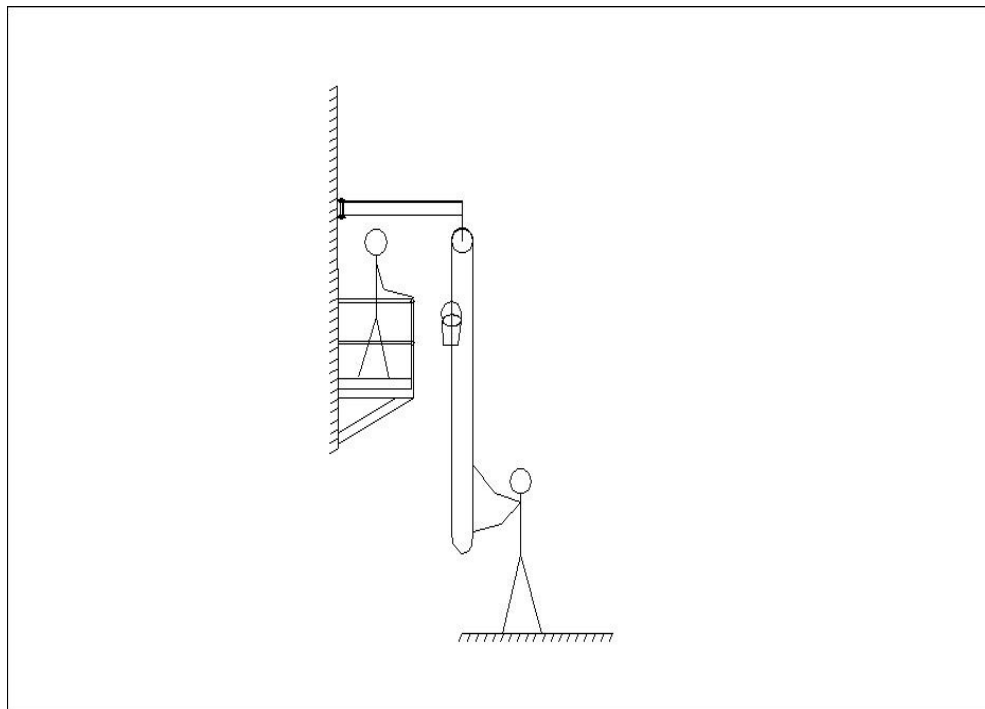
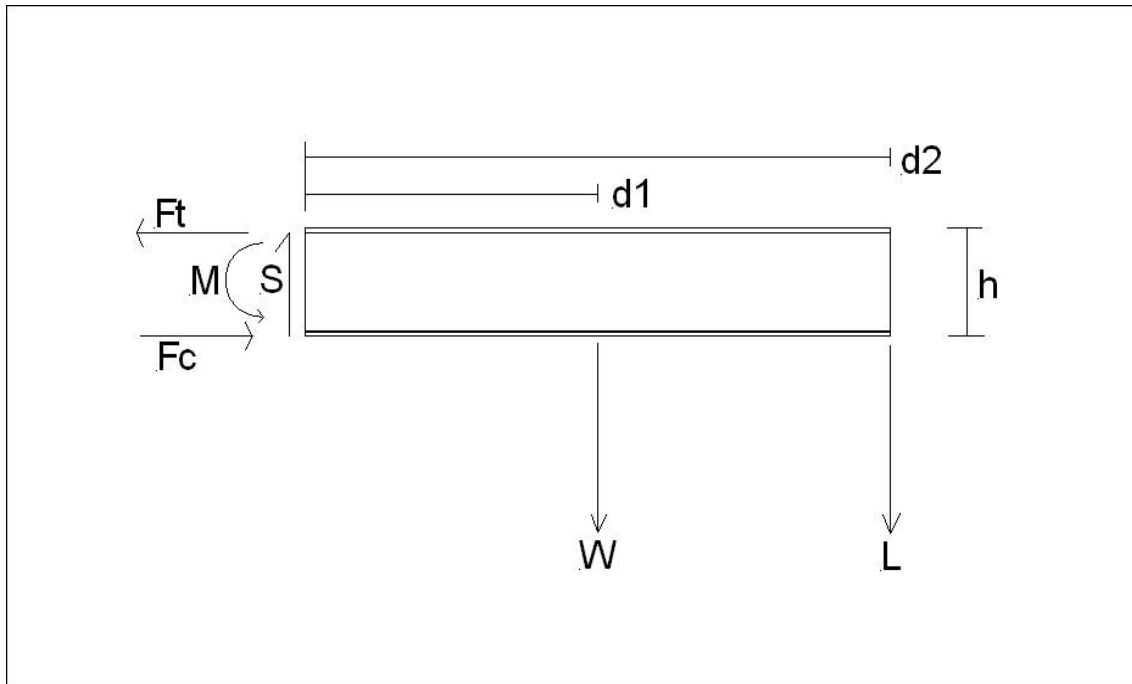

Figure 1. A simple davit being used by a worker to raise a bucket of equipment.
Figure 1a A free body diagram of figure 1.
Figure 1 illustrates a simple davit being used by a stack tester. The davit is an I-beam that has been pinned to a support on the stack wall; pinning in this manner is a common method of reducing lateral loads and wind loads. At the other end of the davit there is a pulley with a continuous piece of rope which supports a bucket of stack testing equipment being hoisted to the platform by a worker on the ground. Figure 1a is a free body diagram of the same davit with some of the important dimensions and forces labeled.  $W_B$  is the weight of the beam and it acts at a distance  $d_1$  from the restrained end of the beam.  $L$  is the load and it equals the sum of the weight of the pulley,  $W_P$ ; the weight of the rope,  $W_R$ ; the weight of the bucket of equipment,  $W_E$ ; and the force the worker is applying to the rope,  $F$ . If the worker is raising the bucket at a constant rate, then the force he/she is exerting is equal to the weight of the bucket of equipment.  $L$  is acting at a distance of  $d_2$  from the restrained end of the I-beam. So we have:
In Figure 1a, S is the shear force being applied to the beam by the stack to restrain the beam, and it is the sum of the vertical forces acting on the beam, that is:
- The rope used to hoist the load should be tied in a continuous loop as shown in Figure 1. When tied in a loop the weight of the rope on one side of the pulley is balanced by the weight on the other side. This is helpful when raising light loads; if the weight of the rope was not balanced then as the load neared the top, the weight of the rope returning to the ground would be greater than the weight of the load, and the load would accelerate towards the pulley. If the load was, for example, a wrench in a bucket, the bucket would accelerate towards the pulley and stop suddenly when it reached the pulley and could potentially eject the wrench which could then fall back to the ground and cause damage or injury.